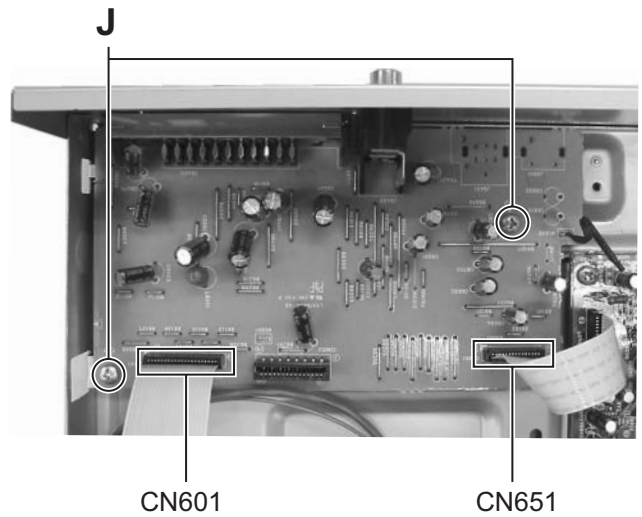

Fig.12
3.1.7 Removing the video board (See Fig.12 and 13)
- (1) Disconnect the card wire from connector CN601 and CN651. (See Fig.12)
- (2) Remove the two screws **J** attaching the video board. (See Fig.12)